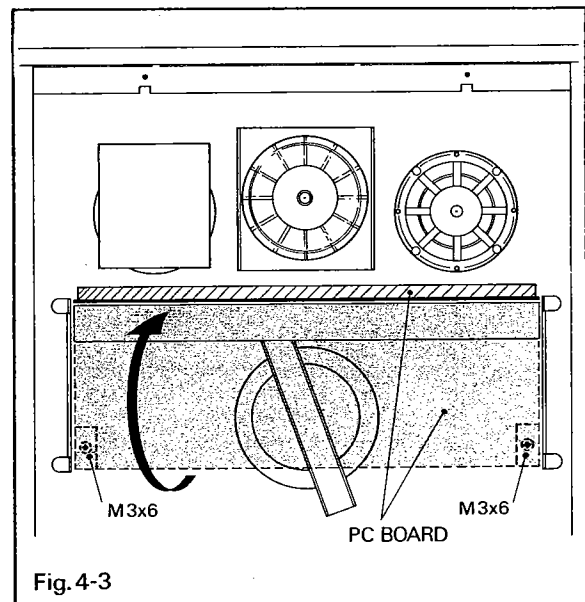

Fig. 4-3
- Remove the four screws ( $\oplus$  3 X 10) that secure the punched shield board (30)\*, located on the control PC board, by turning them counterclockwise with the cross-headed screwdriver, and then remove the shield board (30).
- Remove the two screws ( $\oplus$  M 3 X 6) that secure the control PC board and turn the board upward as shown in Figure 4-3. Fix the control PC board there with adhesive tape not to let it drop down.
- Disconnect the 4-p connector, plugged to the equalizer change-over PC board (31), and lift the belt.
- Remove two screws ( $\oplus$  M 4 X 8) that secure the flywheel-fastening holder (32), and pull out the belt.